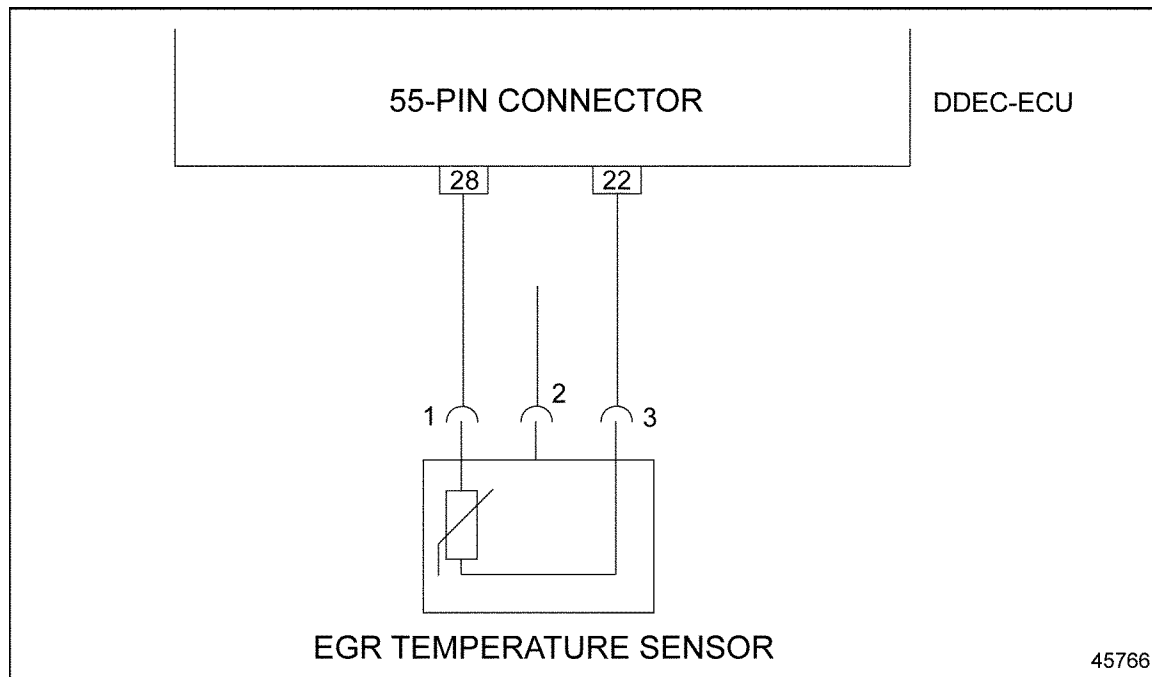

Figure 4-6 EGR Temperature Sensor Pins and 55-Pin Connector Wires
3. Check the EGR temperature sensor. See Figure 4-6.